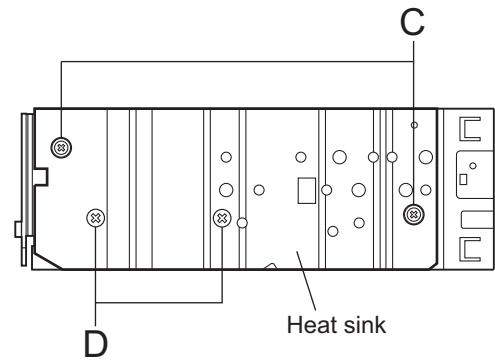

Fig.5
2.1.3 Removing the heat sink (See Fig.5)